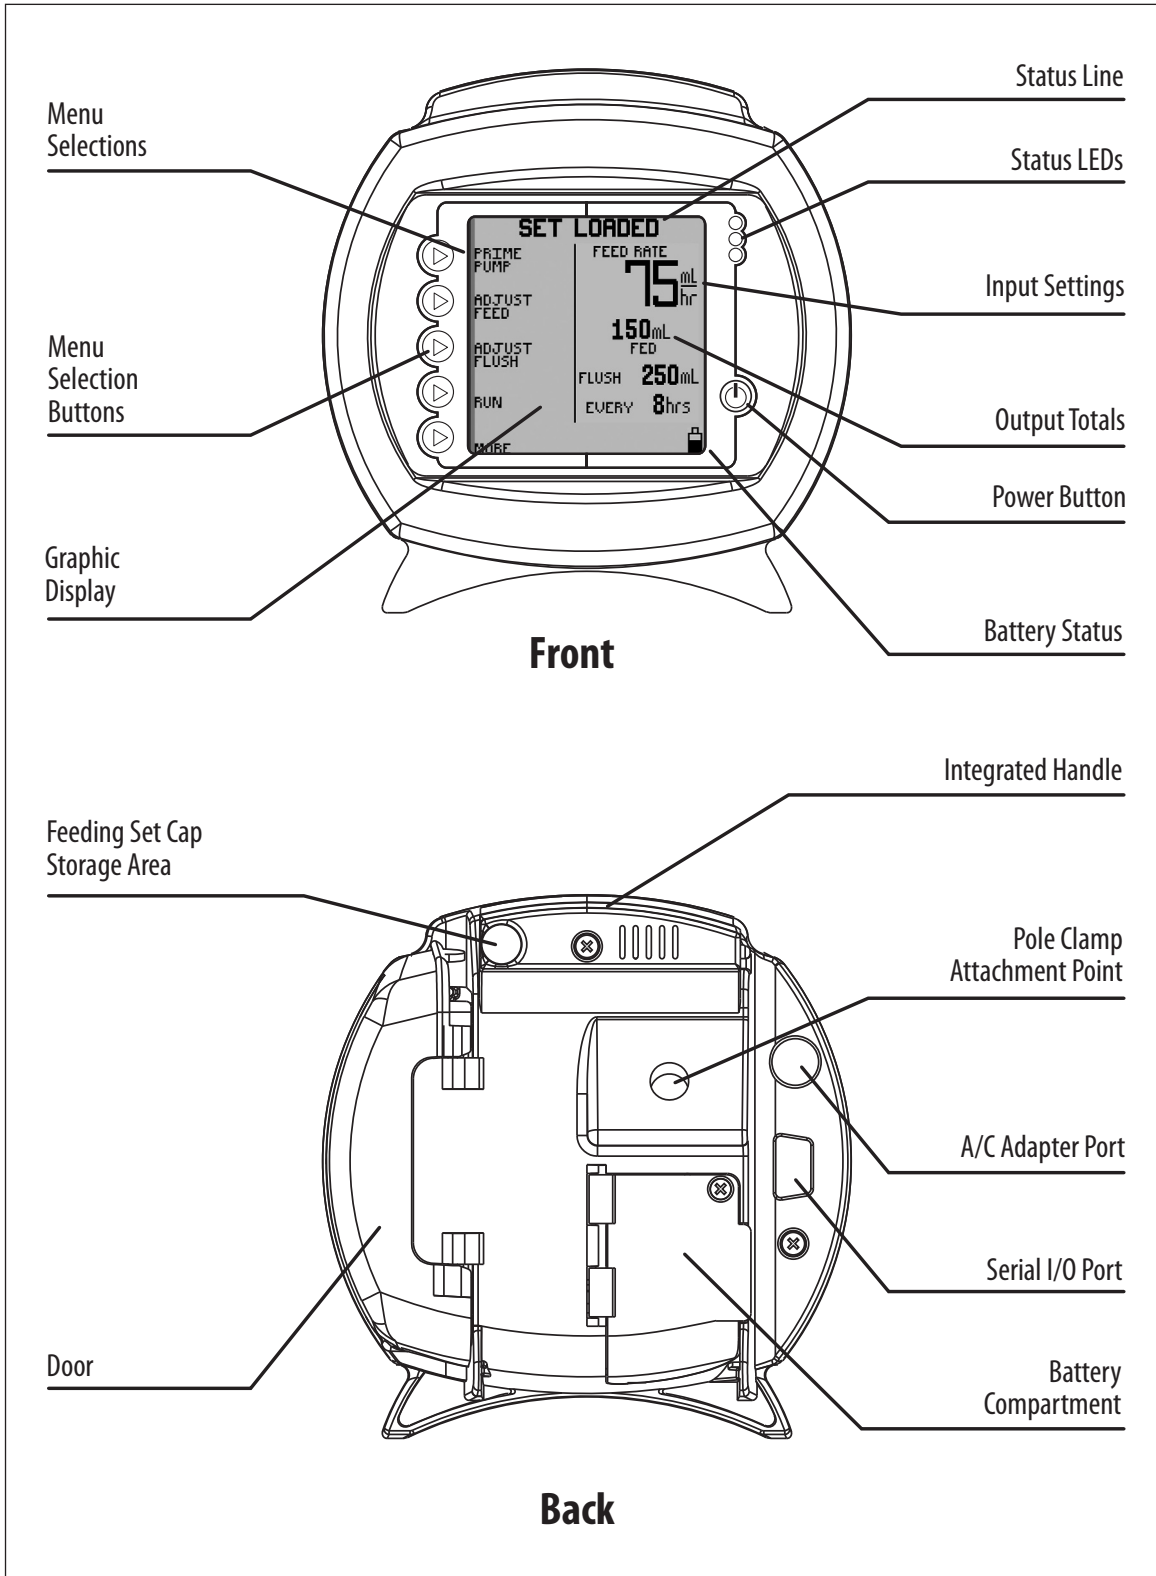

Figure 1A. Kangaroo™ Epump features, front and rear views.
13. **Warning:** The serial I/O port (see Figure 1A) is intended only for use with the approved Communication Cable (Part Number 382499).
Plug the A/C Power Adapter (Part Number 382491) into the A/C Adapter Port on the back of the pump. See Figure 1A to locate port on pump. Make note of the location of the pins and tab on the plug to properly orient the plug.